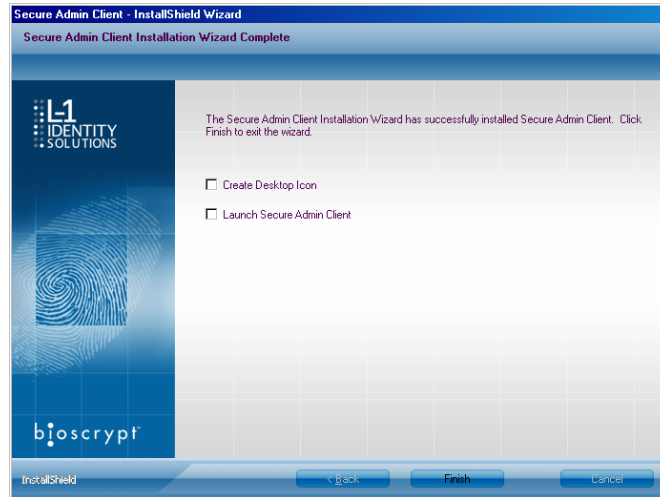

Figure 3-14: InstallShield Wizard Finished
7. Click the **Next** button. The InstallShield Wizard completes the installation and displays a Finished screen (see Figure 3-14 on the next page).